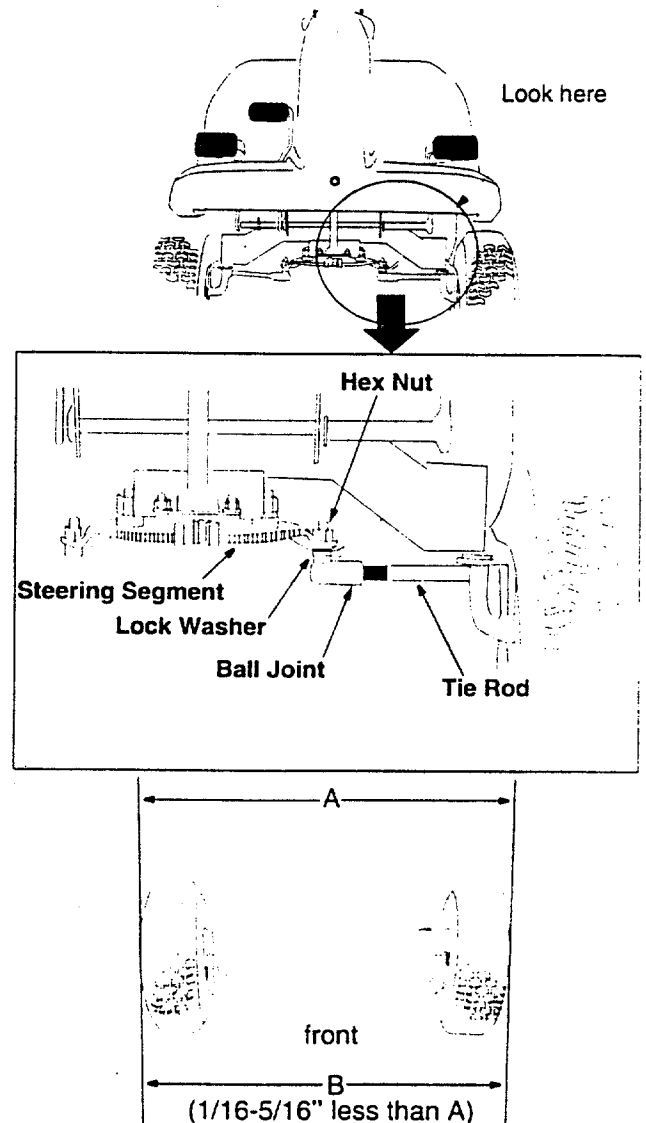

Figure 20
- Remove the 3/8" hex nut which holds the ball joint to the steering segment. See Figure 20.
- Adjust the ball joint in or out until the wheels toe-in approximately 1/16-5/16" (Dimension "B" should be approximately 1/16-5/16" less than dimension "A"). See Figure 20.